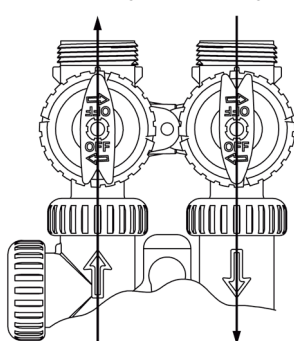

Figure 14:
2. **Bypass Position:** The inlet and outlet handles point to the center of the bypass, the control valve is isolated from the water pressure contained in the plumbing system. Untreated water is supplied to the plumbing system. (See Figure 14)